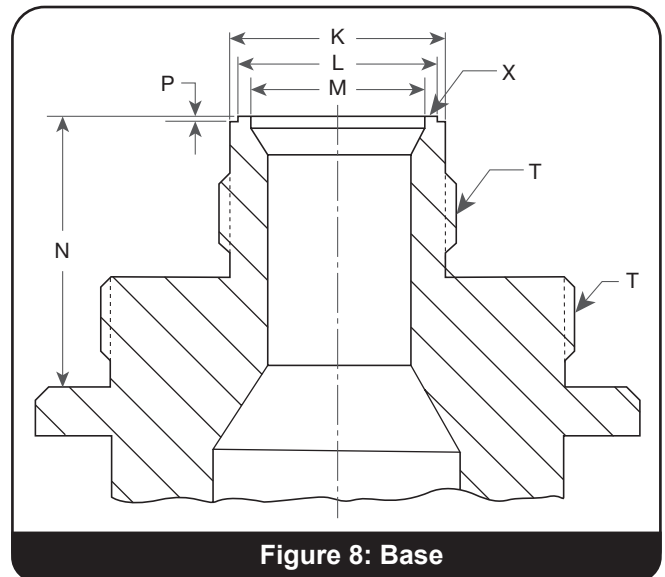

Figure 8: Base
Base (Figure 8) should be replaced:
- b. Threads (T) are torn, stripped or galled.
- c. Dimensions in Table 4 (Figure 8) exceeds minimum values.